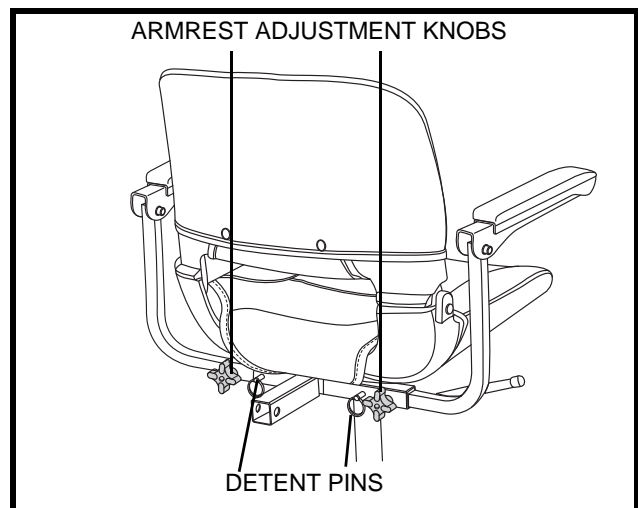

Figure 16. Armrest Width Adjustment
1. Loosen the armrest adjustment knobs. **See figure 16.**